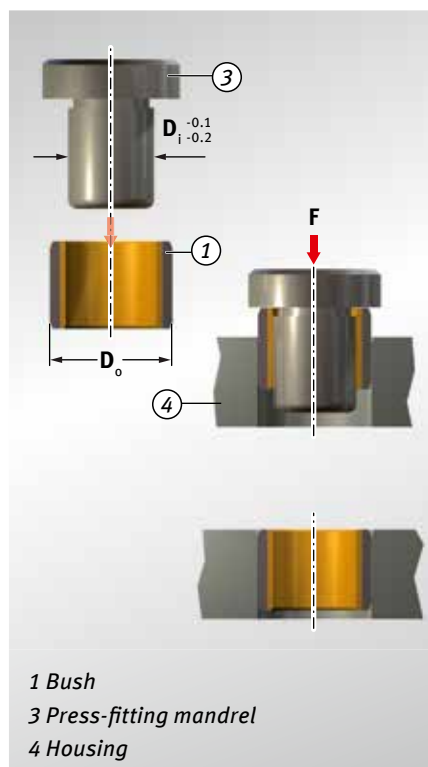

Fig. 50: Flush press-fitting $D_o \leq 55$ mm
- Flush press-fitting with mandrel, without auxiliary ring, as per Fig. 50